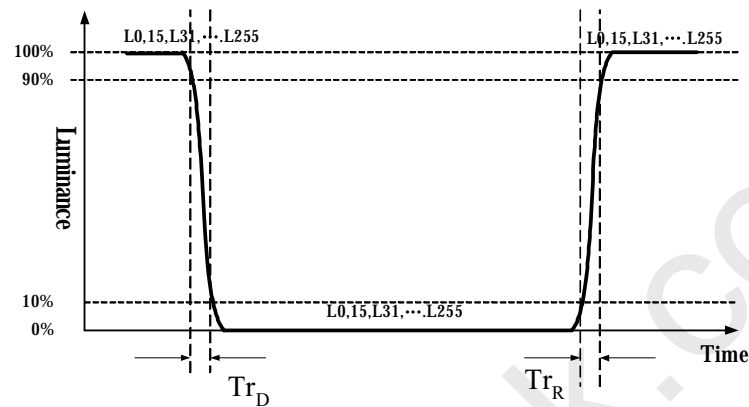

Fig.4-4 Response time
5. The response time is defined as the following figure and shall be measured by switching the input signal for different gray level. For additional information see FIG4-4